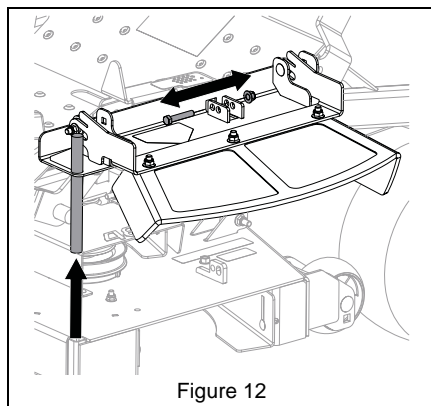

Figure 12
1. Remove and retain 3/8" x 2" hex bolt retaining discharge chute assembly. Remove discharge chute. Retain all parts for operation without bagger. See Figure 12.